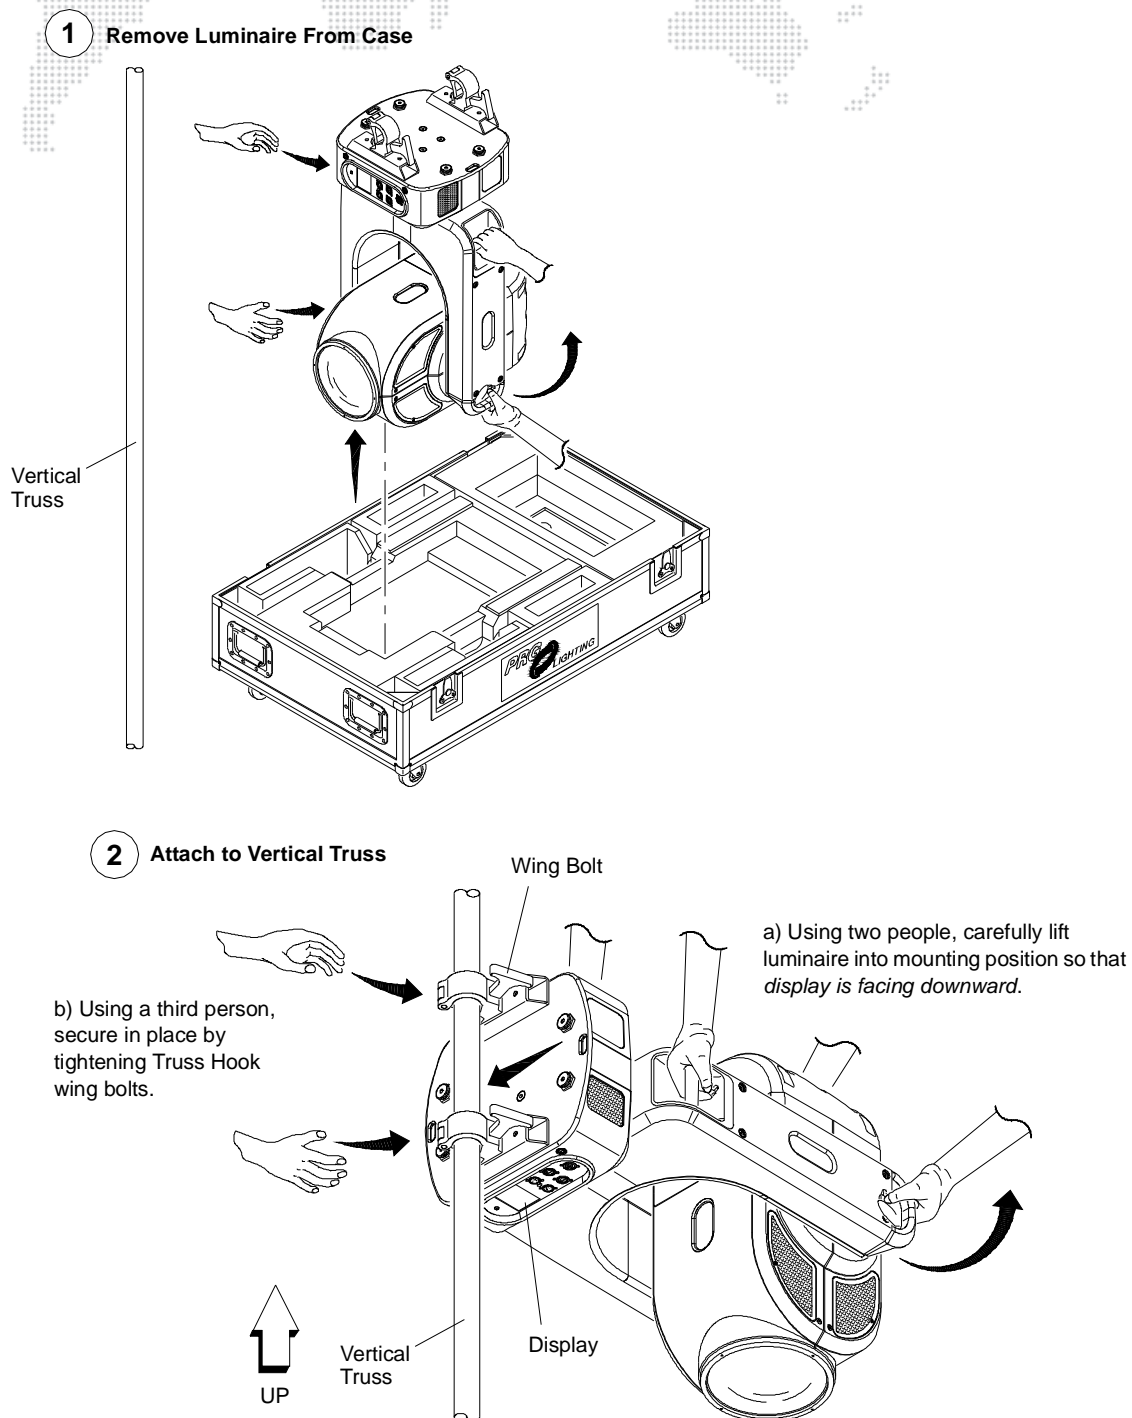

Figure 2-7: Vertical "Yoke Out" Hanging Configuration
- Step 3. Roll case to mounting location as required (**Figure 2-7**).